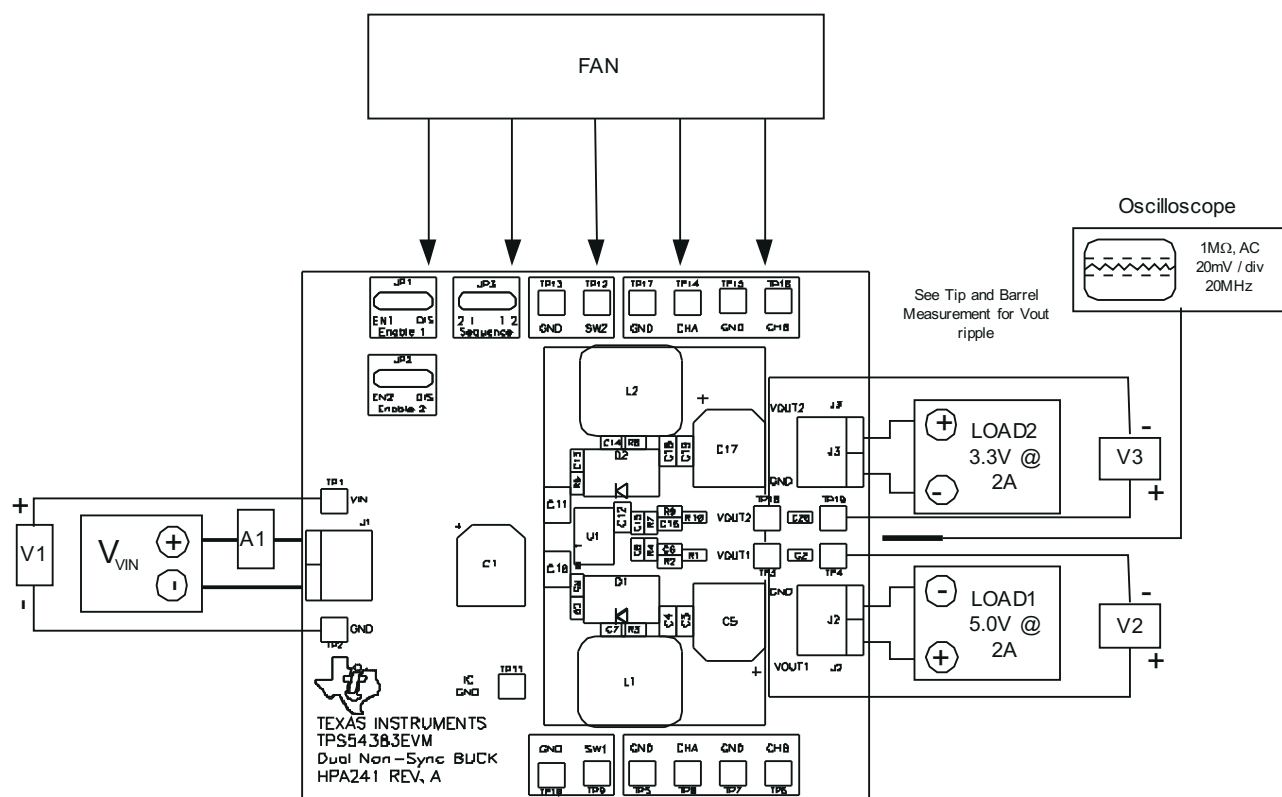

Figure 4-1. TPS54383EVM Recommended Test Set-Up
Shown in Figure 4-1 is the basic test set up recommended to evaluate the TPS54383EVM. Please note that although the return for J1, J2 and JP3 are the same system ground, the connections should remain separate as shown in Figure 4-1
2. Prior to connecting the dc input source, VIN, it is advisable to limit the source current from VIN to 5.0 A maximum. Make sure VIN is initially set to 0 V and connected as shown in Figure 4-1.
3. Connect the ammeter A1 (0-5 A range) between VIN and J1 as shown in Figure 4-1.
4. Connect voltmeter V1 to TP1 and TP2 as shown in Figure 4-1.
5. Connect LOAD1 to J2 as shown in Figure 4-1. Set LOAD1 to constant current mode to sink 0 A_{DC} before VIN is applied.
6. Connect voltmeter, V2 across TP3 and TP4 as shown in Figure 4-1.
7. Connect LOAD2 to J3 as shown in Figure 4-1. Set LOAD2 to constant current mode to sink 0 A_{DC} before VIN is applied.
8. Connect voltmeter, V3 across TP18 and TP19 as shown in Figure 4-1.
9. Place fan as shown in Figure 4-1 and turn on, making sure air is flowing across the EVM.